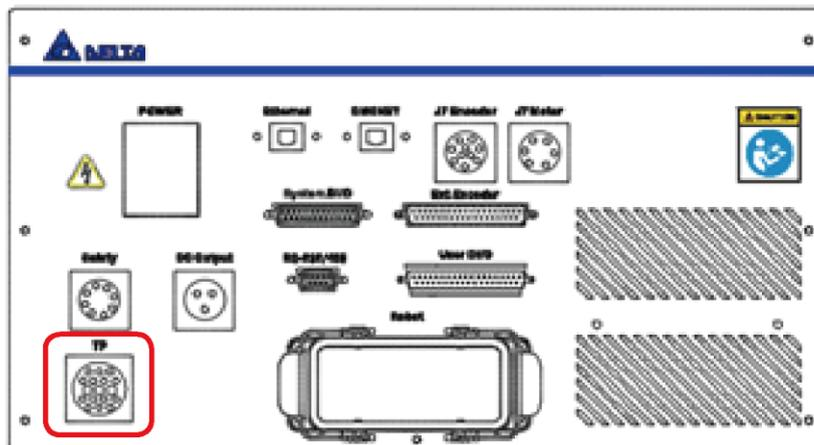

Figure 5.12 Handheld teaching pendant connector location
You use the handheld teaching pendant (TP) to operate the robot, teach points, edit the robot program and perform I/O monitoring. Figure 5.12 shows the TP connection location.